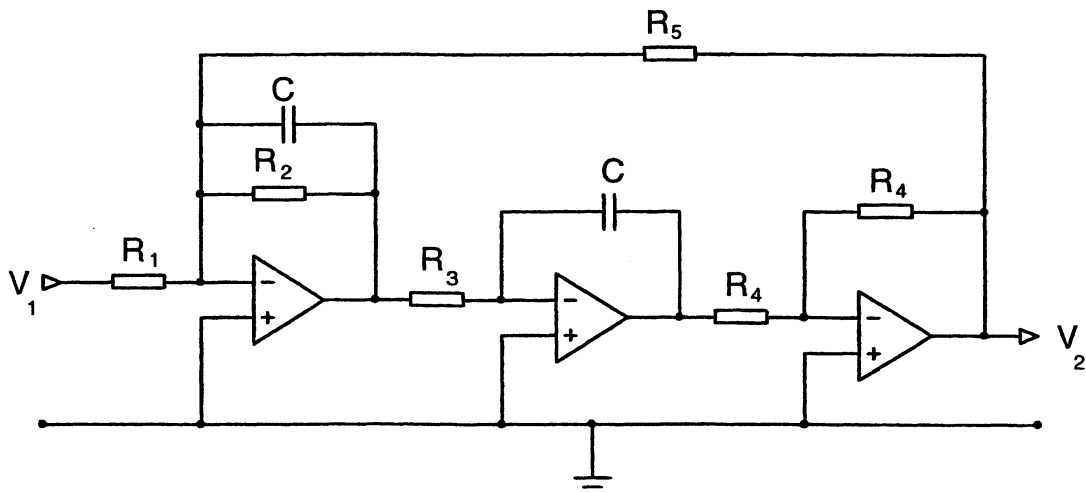

Fig 3
c) This filter is to use the circuit shown in Fig 3. Obtain an equation for the gain of the circuit relating  $V_2 / V_1$  to the values of the two equal capacitors of value  $C$  and to the values of the resistors  $R_1, R_2, R_3$  and  $R_5$  and using  $s = j\omega$ .